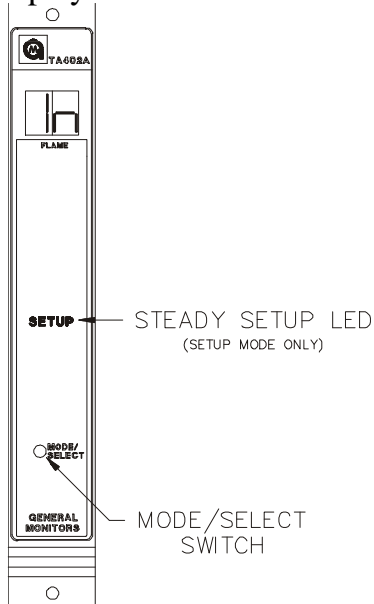

Figure 15
- This option applies to the Setup Mode only: If the password option is disabled, or after the correct password has been entered, the display will indicate **In** for five seconds (figure 15). Pressing the Mode/Select switch while **In** is displayed, will cause the unit to enter the Inhibit mode by inhibiting the alarm outputs. After the Model TA402A has entered the Inhibit mode, pressing the Mode/Select switch causes the unit to return to normal operation (see section 5.3). If it is desired to enter the Setup Mode, do not press the Mode/Select switch for the five seconds **In** is displayed.
Whenever the Inhibit Mode is entered (see section 5.2), the A1 and A2 rear terminal alarm outputs are inhibited. The front panel A1 and A2 LEDs will still function normally, in cases where sufficient UV/IR radiation is present. If the password option is disabled, or after the correct password has been entered, the display will indicate **In** for five seconds (figure 15 on page 19). Pressing the Mode/Select switch while **In** is displayed, will cause the unit to enter the Inhibit mode by inhibiting the alarm outputs. After the Model TA402A has entered the Inhibit mode, pressing the Mode/Select switch causes the unit to return to normal operation. If it is desired to enter the Setup Mode, do not press the Mode/Select switch for the five seconds that **In** is displayed.